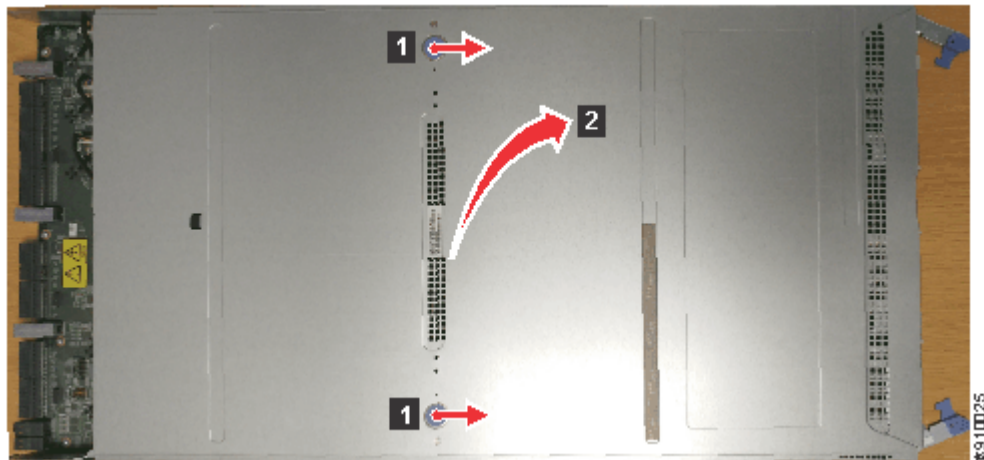

Figure 29. Removing the node canister cover
3. Open the cover of the node canister by depressing the recessed, blue touch points on the lid (1) and sliding the lid away from you (2), as shown in Figure 29 on page 70.